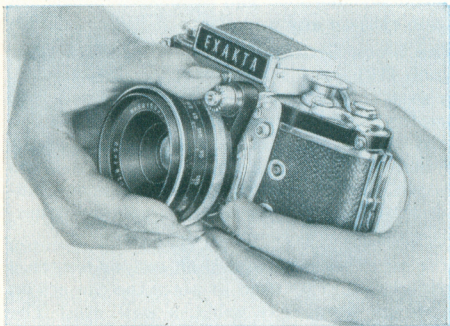

Fig. 8
The lens is interchangeable: Press the knob of the bayonet catch (30) towards the lens. Turn the whole lens to the left (fig. 8) until red dots (23 and 29) are opposite each other. Lift the lens out of the camera mount. When inserting the lens, the procedure is reversed: Red dots to be opposite, turn the lens to the right until the lens snaps into position (If, by exchanging the Jena lenses with Fully Automatic Diaphragm, the adjusting screw of the release knob (27) should knock against other camera parts then the lens must be set on automatic, as described on page 10). All lenses, from the shortest to the longest focal length can be employed.